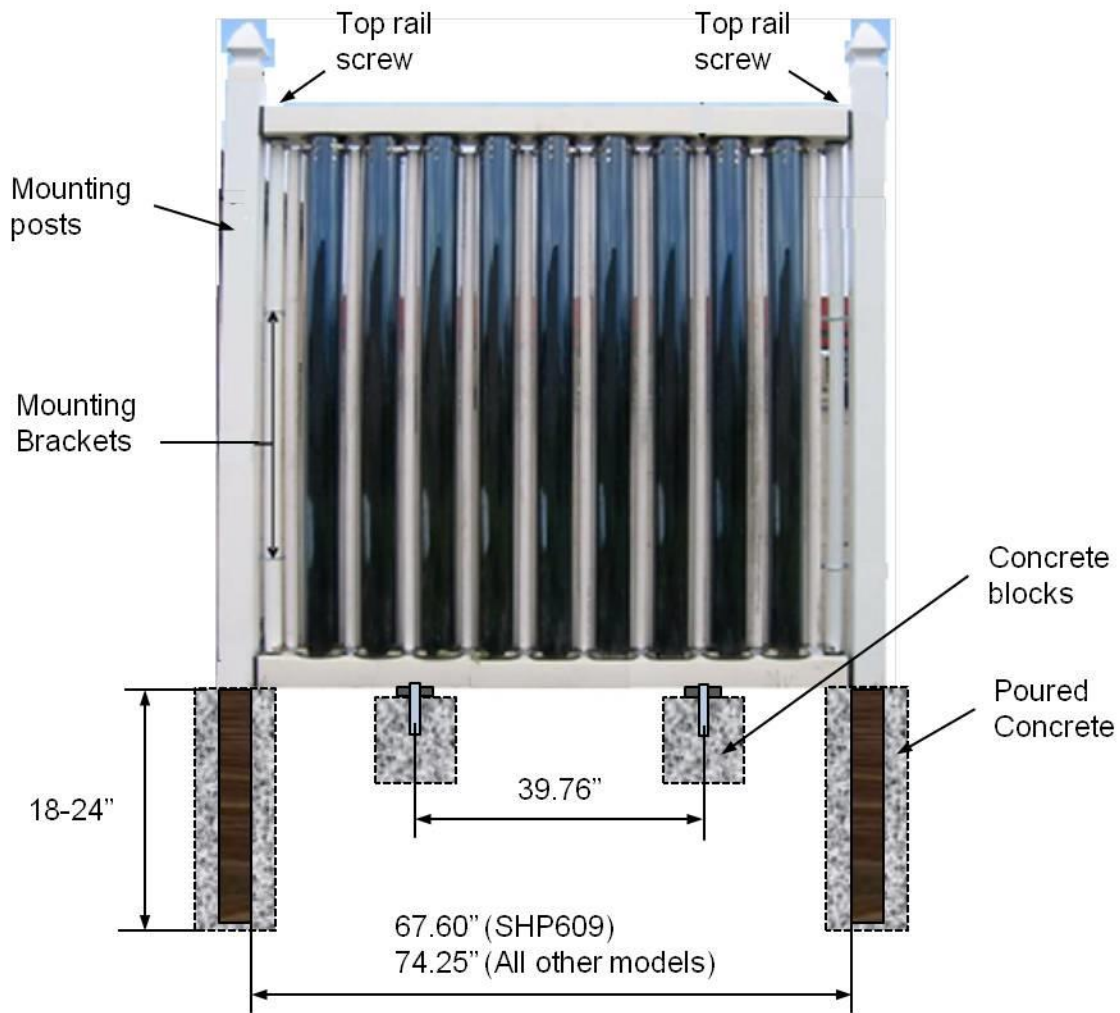

Figure 5.1: GLE Solar water heater fence showing the details for mounting with decorative 4x4 post covers.
- 5.1.4 To remove the top rail, first taking out the 2 screws in each end plate, seeing the Fig. 5.1. Then, identify the plugs on the top surface of the top railing located where the railing joins the steel support post. Remove each plug and disconnect the newly exposed bolt. Finally, remove the mounting brackets attached to the steel support post within the top railing (which holds the end caps in place).
5.2.1 **Foundation:** Refer to Fig. 5.1 for the appropriate dimensions. Identify the precise location where the collector will be installed. Using the appropriate tools, even the grade of the soil so that the collector will rest firmly and evenly on the earth.
Then, locate the two points shown 39.76" apart in Fig. 5.1. These are the center points of the precast concrete blocks that will support the collector's
**5.2.2 *Mounting Posts:*** Use Figure 5.1 to identify the precise location of each 4x4 mounting post. (Alternately, center the collector assembly on the concrete blocks temporarily as a visual aid to mark the mounting post locations.) Using a manual or mechanical boring tool, produce a hole for each mounting post (24" unless a greater depth is required by local or state building codes). Wrap the posts in construction felt or plastic to help extend the life of the post. This will prevent the concrete from decaying the wood at an accelerated rate. Once the post is positioned level in the post hole, pour concrete into post holes and allow it to cure.
- Remove top rail from collector base by removing 4 screws from each end as shown in Fig. 5.1.